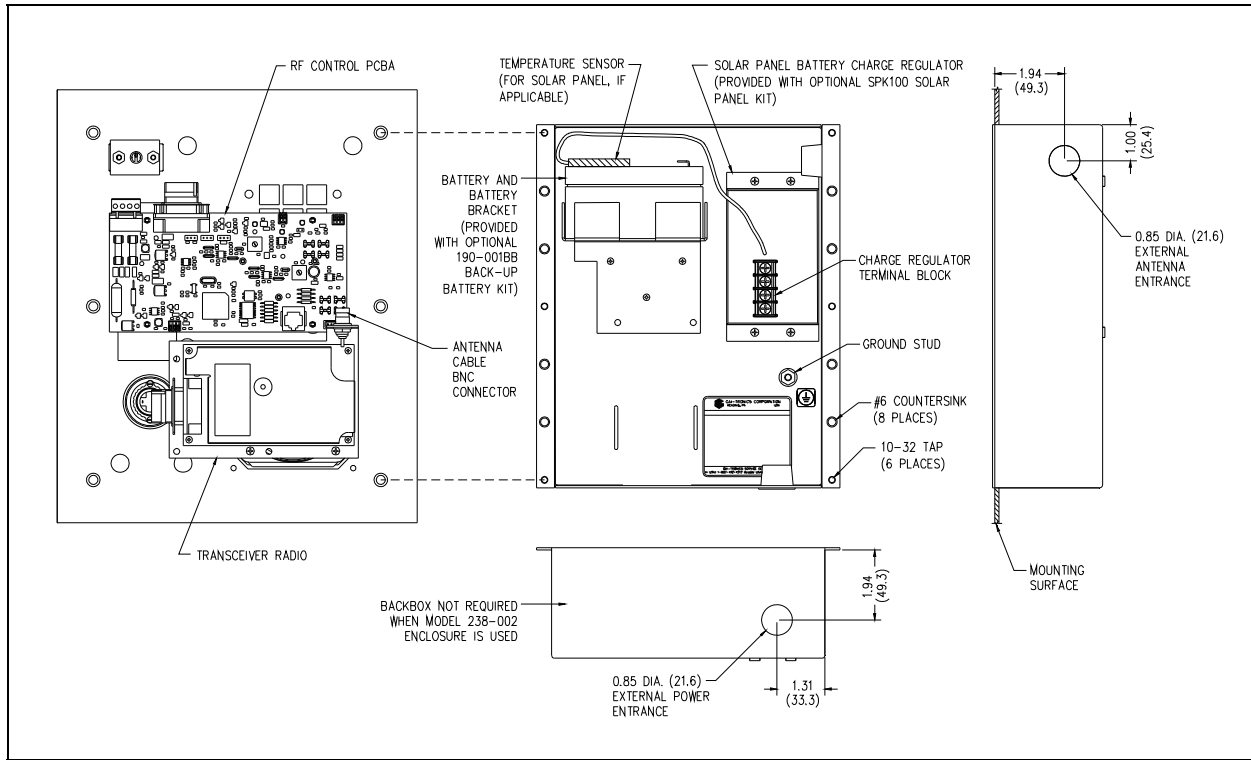
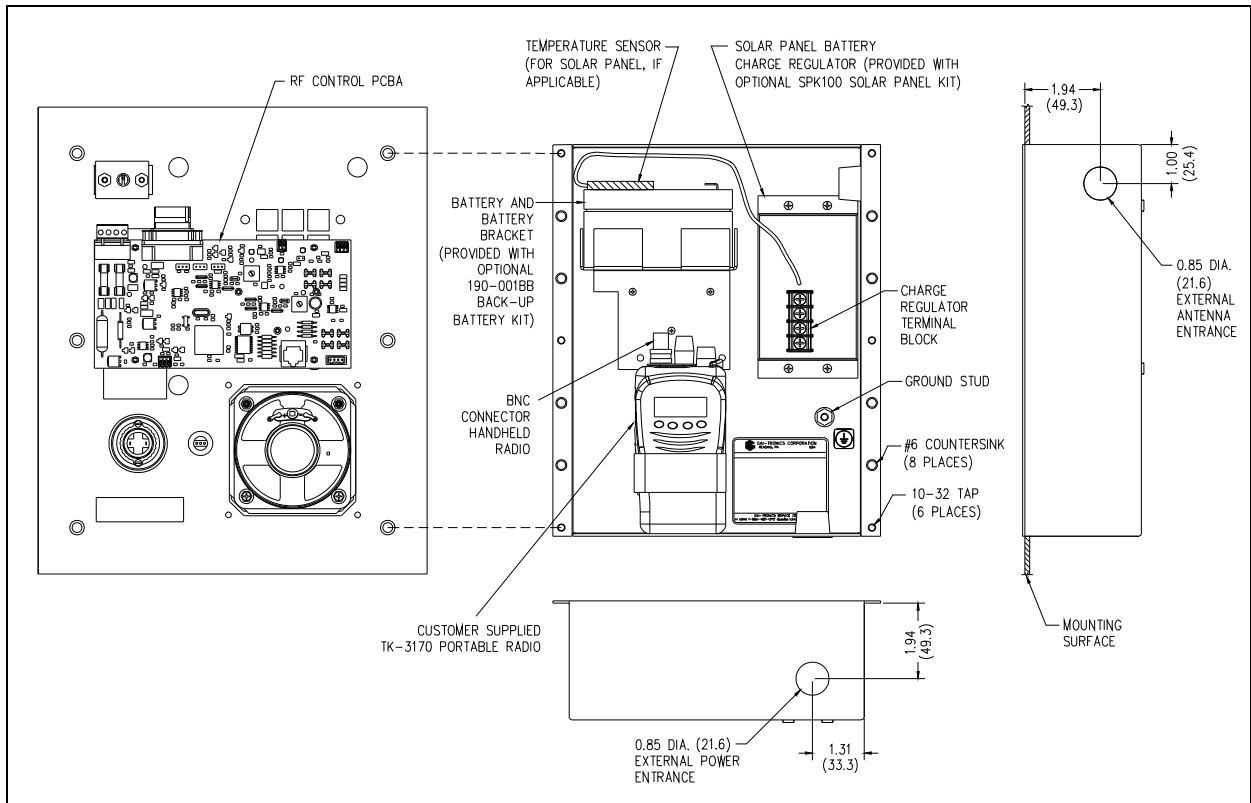

Figure 7. Model CB195-001 and CB195-002 Flush-Mounting Details
Figure 8. Model CB195-003 Flush-Mounting Details
1. When mounting in a GAI-Tronics Model 234 Series Stanchion or for flush-mount installations, the supplied back box must be used to mount the Model CB195-xxx RF Call Box. Remove the front panel assembly (six screws) and mount the back box to the structure using the appropriate hardware. Refer to Figure 7 and Figure 8. The cutout dimensions are 10.1 H × 7.6 W inches (255.6 × 193.0 mm).